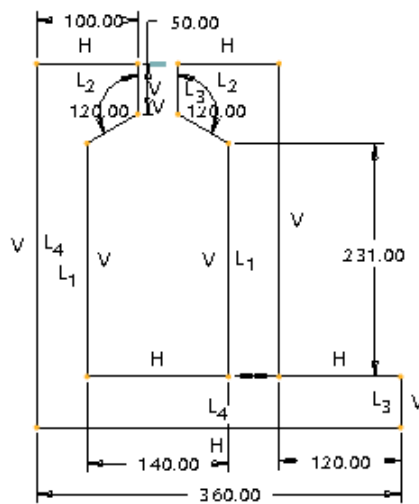

Figure 1-29 Complete sketch with dimensions and constraints
4. When all dimensions are modified, choose the **Regenerate the section and close the dialog** button from the **Modify Dimensions** dialog box. A message **Dimension modifications successfully completed** is displayed in the **Message Area**. The completed sketch is shown in Figure 1-29.